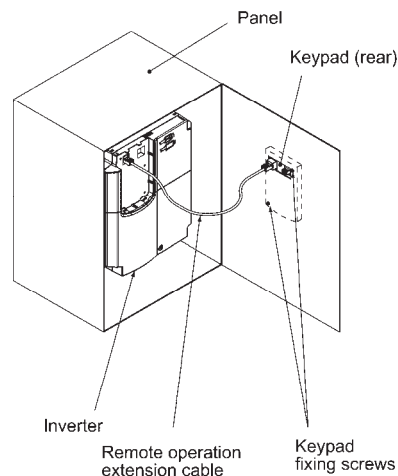

Figure 2.3-2 Mounting the Keypad on the Panel
- Mounting it on the panel (see Figure 2.3-2).